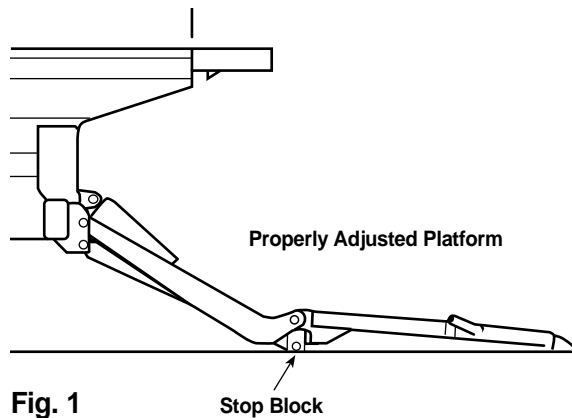
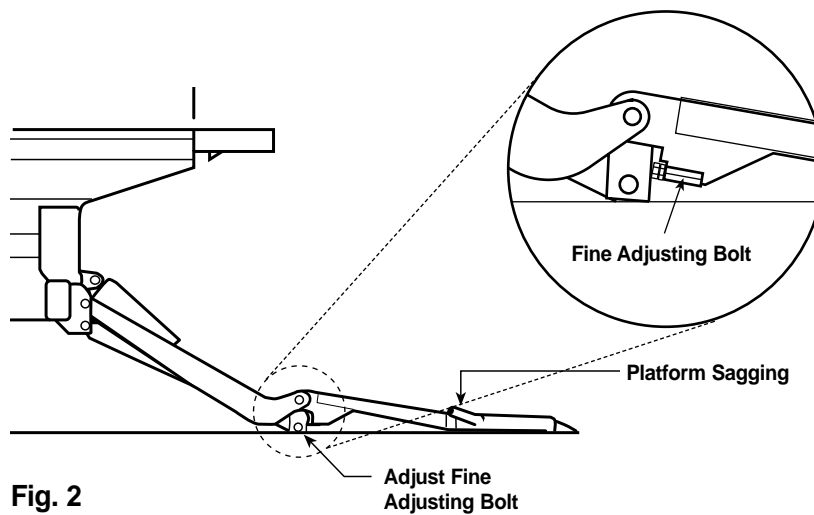

Fig. 1
Fig. 2
STEP 1 Lower the platform until the stop block hits the ground. If the platform is straight with the tip of the ramp touching the ground, as shown in Fig. 1, no adjustment is required. If the platform is sagging, as shown in Fig. 2, the fine adjusting bolt must be backed out until the platform is straight with the tip of the ramp touching the ground, as shown in Fig. 1.